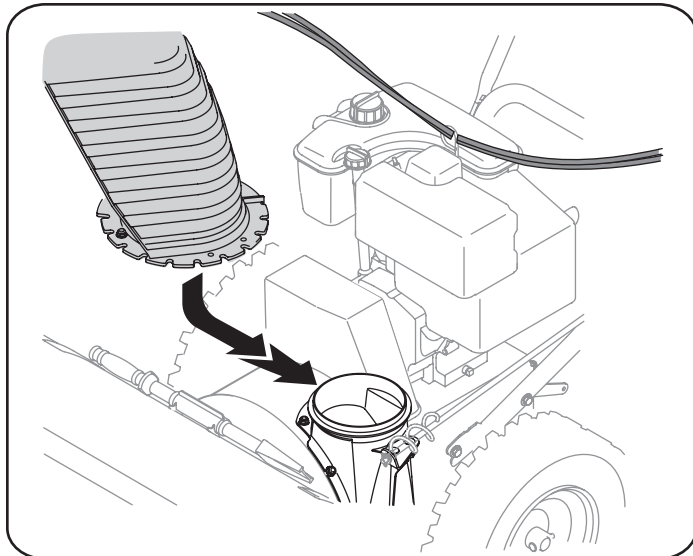

Figure 4
- Place chute assembly onto chute base as shown in Fig. 4, making sure that the notches engage with the spiral end of chute directional control.
- If not already done, slip the cables that run from the handle panel to the discharge chute into the cable guide located on top of the engine. See Fig. 4.